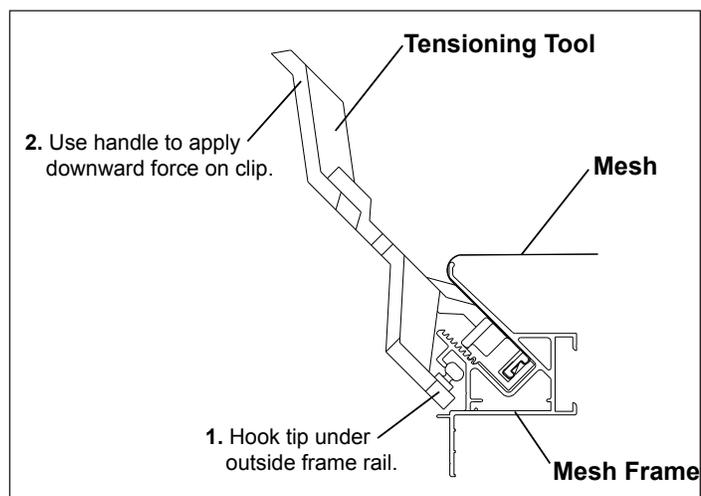

Figure 21: How to Use Tensioning Tool
- g. Use the tensioning tool provided with the mesh replacement kit (part # 0A-1561-0028) to drive the tension clips into the tension channels (**Figure 21**). Start with one or two clicks.